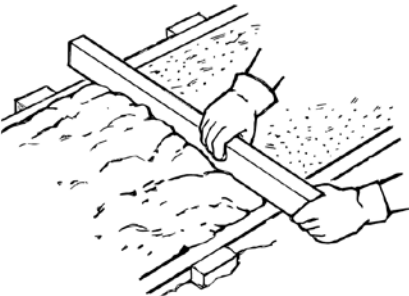

Fig 10 Use a length of timber as a screed to level the surface
- Use a length of flat-faced timber as a screed, laying it across the top of the edging boards (Fig 10) and working it back and forth across the surface of the concrete with a sawing action. This levels the surface of the slab.